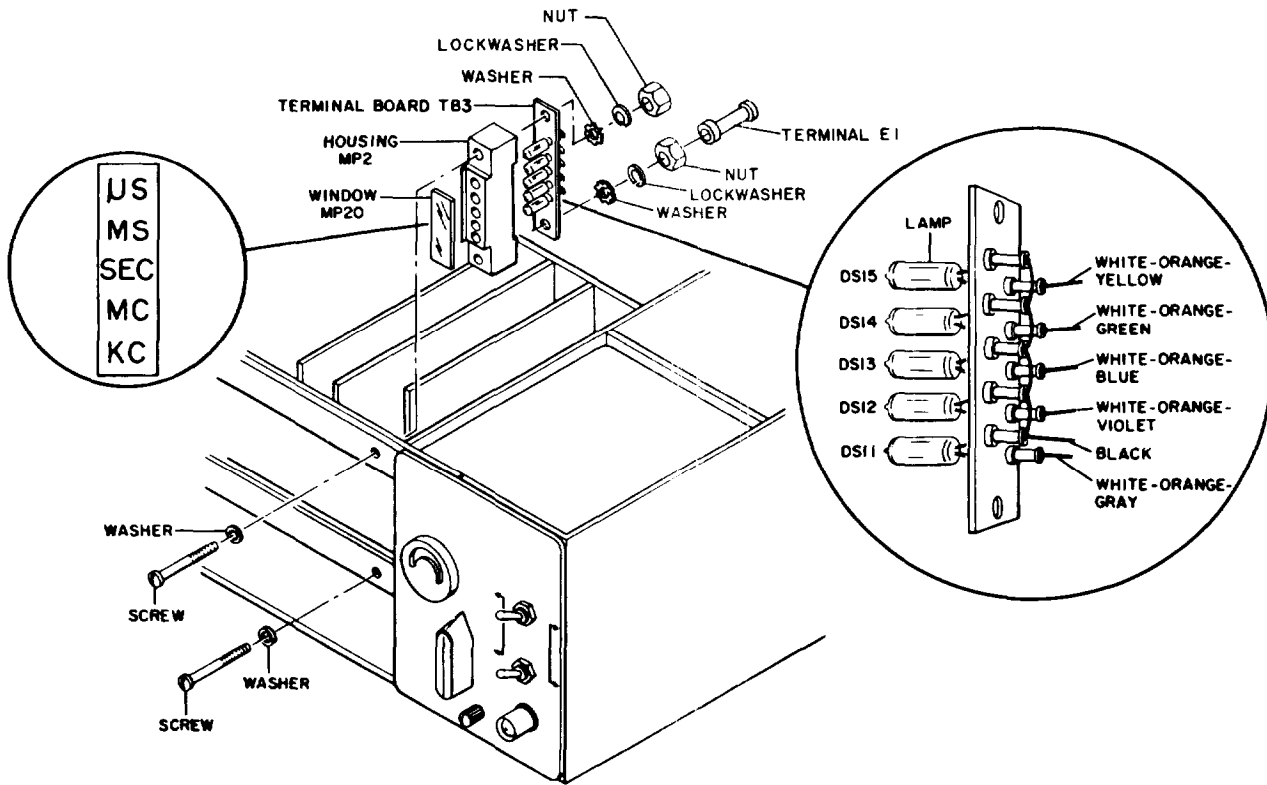

Figure 5-17. Annunciator Block, Exploded View
- (1) Remove and save the two screws, nuts, six washers, and terminal A1E1 that mount the annunciator housing to the inside of the front panel. (figure 5-17).
- (2) The annunciator lamps are mounted on terminal board A1TB3 behind the annunciator housing A1MP2. Separate the terminal board from the housing to expose the lamps. Remove and save the plastic annunciator window A1MP20.
- (3) Using a low-power soldering iron (50 watts), unsolder the power lead associated with the defective lamp.
- (4) Apply heat simultaneously to the terminal pair associated with the defective lamp, then slip the leads of the lamp through the terminal holes as soon as the solder melts. Use a toothpick to clean this, softened solder from the terminal holes.
- (5) Slip the leads of the replacement lamp through the terminal holes, then wrap the leads around the two terminals.
- (6) Wrap the power lead around the power terminal, then solder the leads to both terminals.
- (7) Insert the terminal board with the lamps within the housing, place annunciator window on the